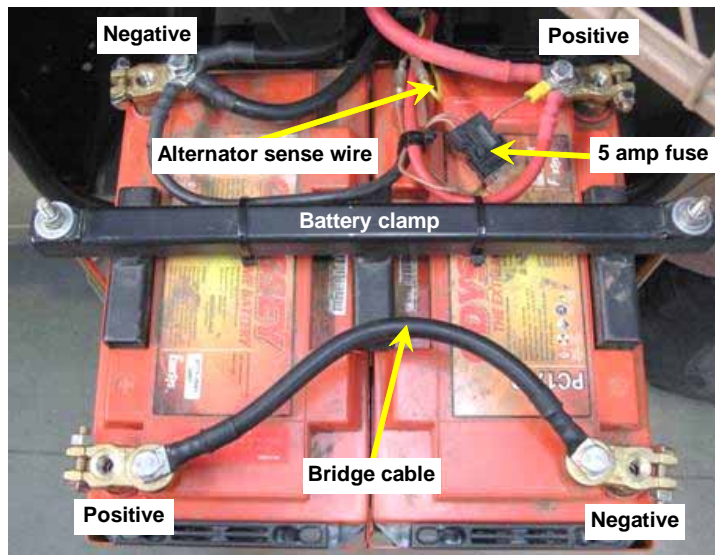
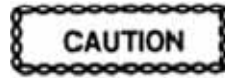
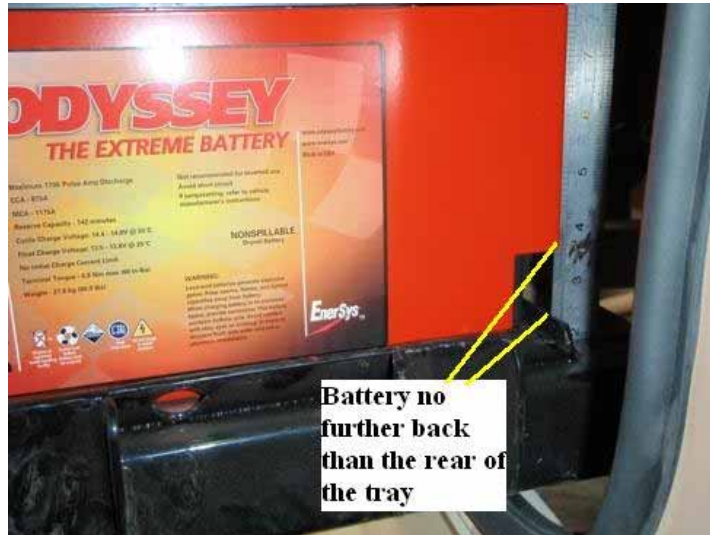

Figure 48 Left-hand Auxiliary Battery Bank Installation
Figure 49 Alternative View of the Left-hand Battery Bank Installation
Figure 52 Alignment Of Batteries With Rear Of Tray
- (1) Position two new Odyssey PC1700 MJT batteries (Table 1, Item 79) on the existing battery tray with their terminals in the orientation shown in Figure 48 and Figure 49. Align the backs of the batteries so that they do not protrude beyond the lip at the back of the battery tray – this slightly forward position stops the battery cases from rubbing on the back wall of the enclosure when the tray is locked in the closed position. See Figure 52
- (3) Connect the three negative (black) leads from the crossover harness which consist of: the left-hand earth link cable, the alternator harness and the chassis earth wire to the 10 mm stud on a negative battery terminal post clamp (Table 1, Item 58) and then fit the clamp to the inner negative terminal on the battery as shown in Figure 48.
- (4) Connect the two positive (red) leads from the crossover harness and the alternator harness along with the 10 mm terminal lug end of the sense line fuse assembly (Table 1, Item 75) to the 10 mm stud on a positive terminal post clamp (Table 1, Item 52) and fit the clamp to the inner positive terminal on the battery as shown in Figure 48 and represented in Figure 50.
- (5) Do NOT fit the bridge cable shown in Figure 48 at this stage.
- (7) Use cable ties (Table 1, Item 87) to form the cables into a flexible, curved loom above the batteries and attach it to the battery clamp as shown in Figure 48. Make any adjustments necessary to ensure that the battery tray can slide freely in or out and can be locked in the closed position without obstruction.
- (1) Fit a new battery tray (Table 1, Item 77) onto the slide rails and lock it in place with the M10 x 30 mm stop bolt, washer and M10 Nyloc nut supplied in the kit
- (2) Position two new Odyssey PC1700 MJT batteries (Table 1, Item 79) on the tray with their terminal orientation as shown in Figure 53. Align the backs of the batteries so that they do not protrude beyond the lip at the back of the battery tray – this slightly forward position stops the battery cases from rubbing on the back wall of the enclosure when the tray is locked in the closed position (Figure 52).